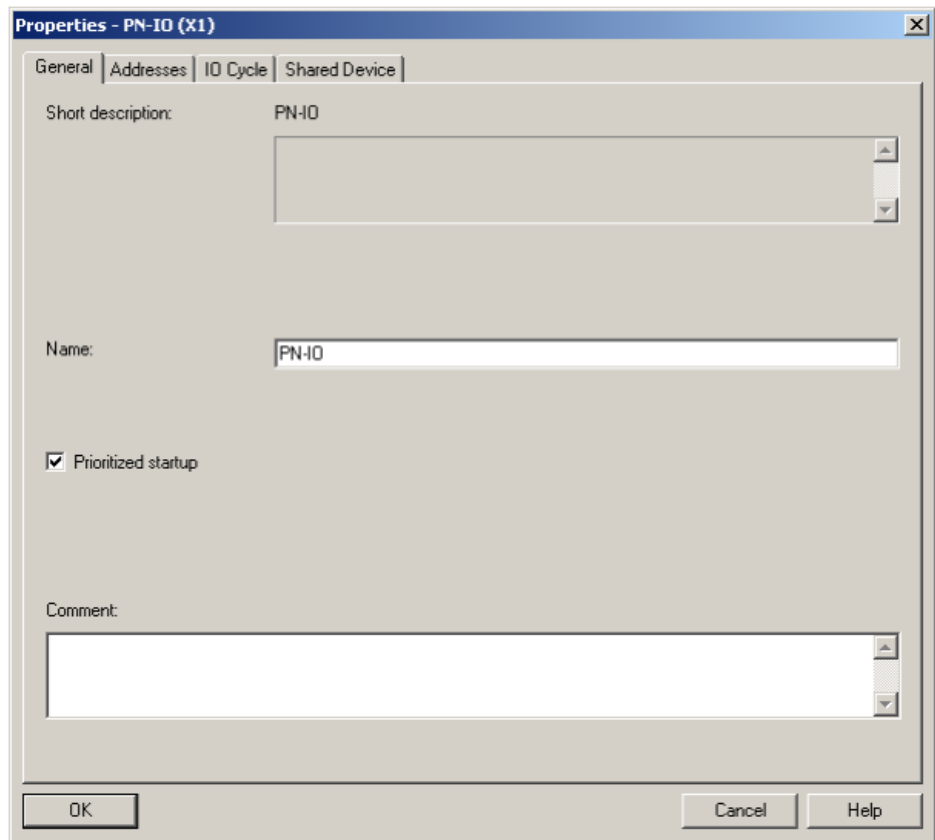

Figure 2-7 Dialog box: Properties- PN-IO (X1); General tab
- Right-click on “PN-IO”, then select “Object Properties”. The “Properties - PN-IO (X1)” dialog box opens, see Figure 2-7.